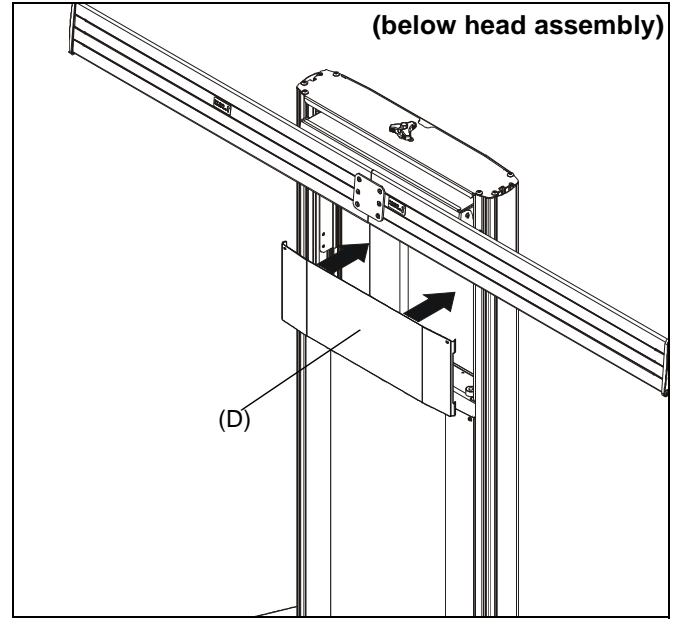
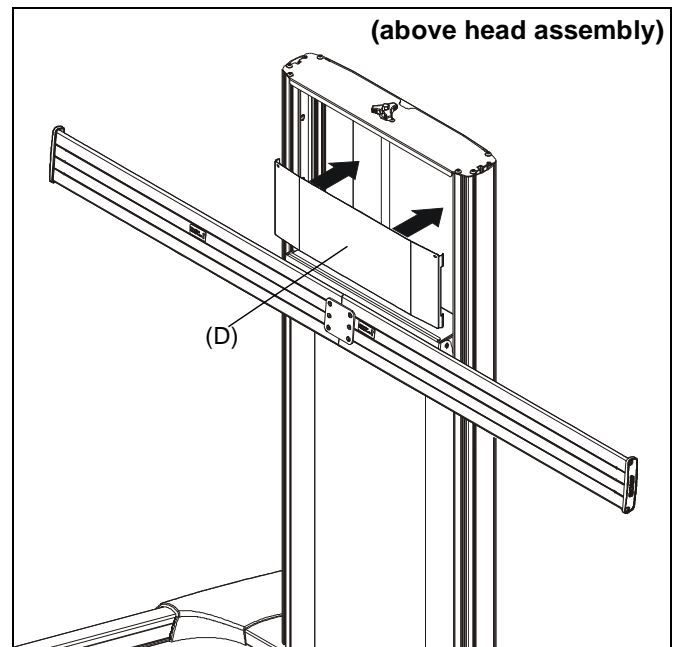

Figure 9
Figure 10
**NOTE:** Installation of dual screen cover (D) is for aesthetic purposes only and is completely optional.
2. Install dual screen cover (D) into open area of column assembly, above or below head assembly. (See Figure 9) or (See Figure 10)